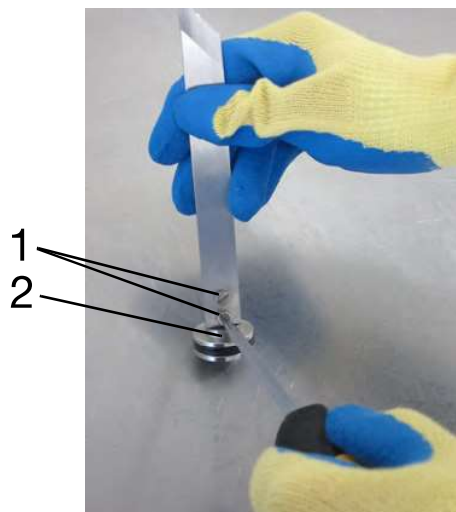
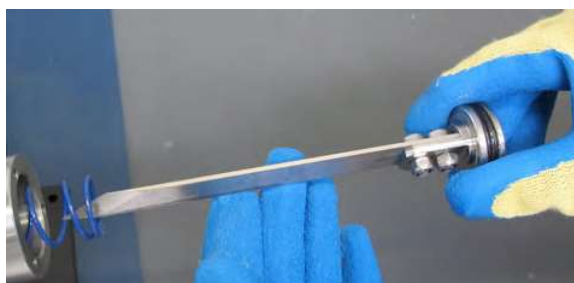
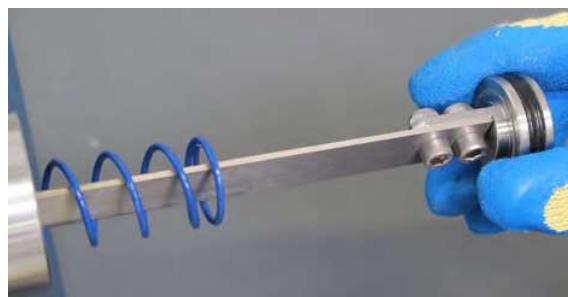

Fig. 7-9 1 Screws
Fig. 7-10 Knife correctly positioned for right version of machine
Fig. 7-11 Knife correctly positioned for left version of machine
- Unscrew the screws (1) on the piston (2) (Fig. 7-9).
- Exchange the knife and fix the new knife onto the piston (2) using the screws (1) (Fig. 7-9). The knife must be fixed onto the piston as appropriate for the left or right version of the machine, see Fig. 7-10 and Fig. 7-11.